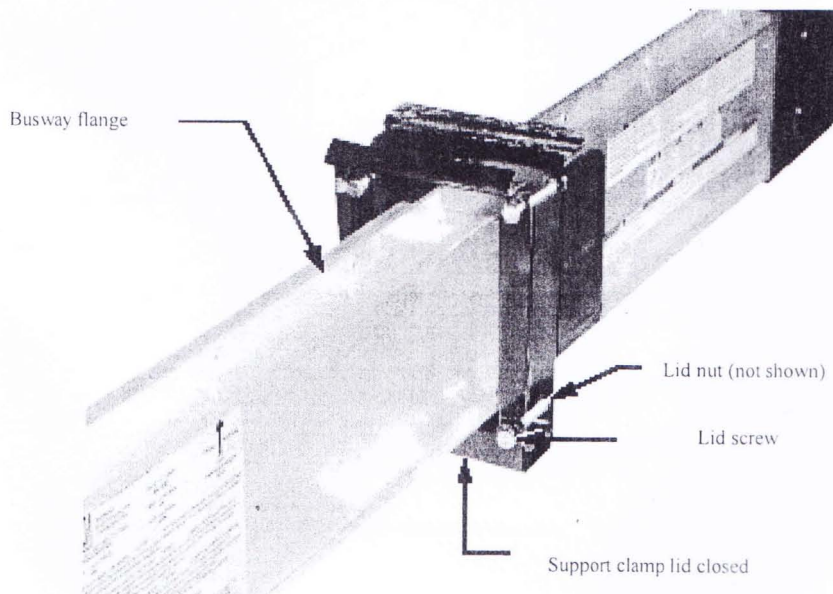

**Figure 4: Support Clamp Slot**
Refer to Figure 3, and Figures 4 and 5 to install the support clamp. The support clamp spacing shall not exceed 10 ft (120 in) in length.
4. Lower or lift the busway into position until the busway flange (Figure 5) is seated into the support clamp slot (provided)(Figure 4).